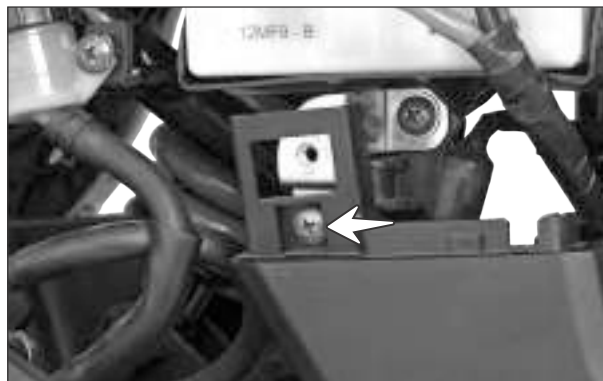

Fig. 2.127
- Remove the CRR pan head screw (M6x16 - 1 no.) from the rider foot rest assembly RH top mounting. (Fig. 2.127)